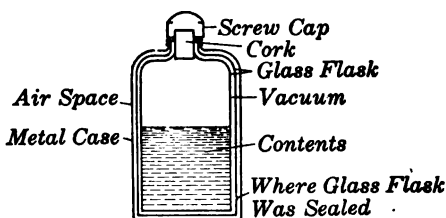

FIGURE 29. — CROSS SECTION OF A THERMOS BOTTLE.
53. The Thermos Bottle. — The thermos bottle consists of a double glass flask with the outside silver-coated (Figure 29). The space between the walls of the flask is a vacuum, the air having been pumped out. The flask is then placed inside of an outer cover, which is either silver or nickel